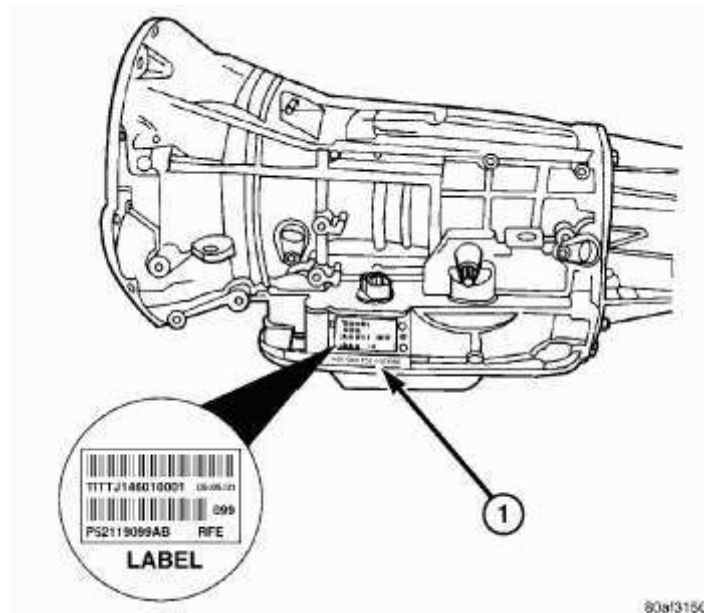

FIGURE 1 - TRANS IDENTIFICATION NUMBER
3. Inspect for the transmission build date (Julian date) (Fig. 1). The transmission build date can be determined by inspection of the 20 digit transmission identification number (DDDYxxxxxPpartnumber). The transmission identification number is stamped on the left side (driver side) of the transmission oil pan flange. The first four (4) digits of the transmission identification number are the transmission build date, in Julian date format. An example of a transmission identification number would be : 101510492P52119684AA. The first three digits (101) of the identification number equal the day of the year, in this case 101 equals April 11. The fourth digit (5) of the identification number equals the calendar year, in this case 5 equals 2005. So 1015 equals April 11, 2005.